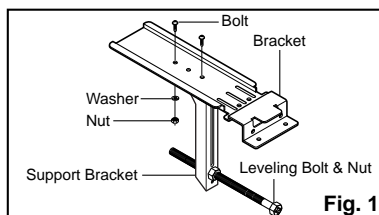

Fig. 1
1. Loosely attach the Support Bracket to the bottom of Bracket using Bolts, Washer, and Nuts. Attach the Leveling bolt and nut. (Fig. 1)